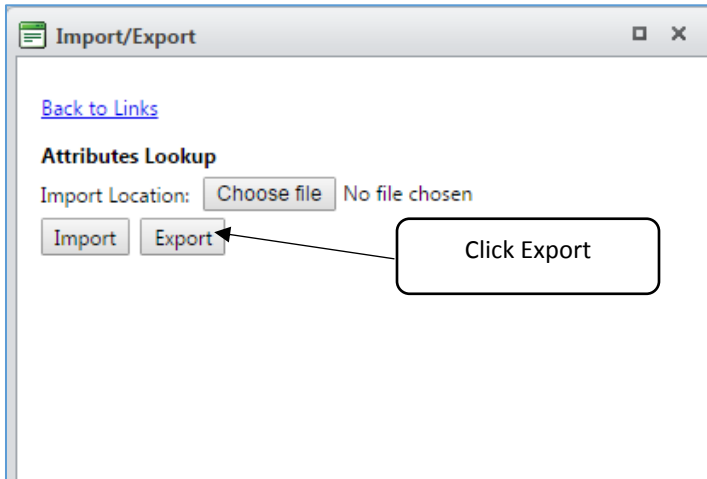

Figure 4.
- 2) To view the existing property attributes, click Export then open the spread sheet that is generated. See figure 4.